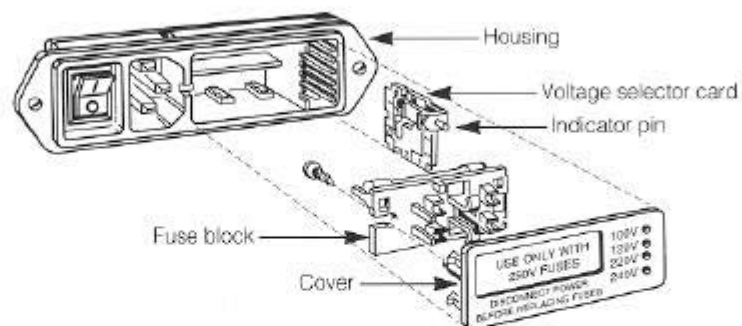

Fig. 2.1. Power entry module.
3. The indicator pin can be moved across the slot on the voltage selector card. To set the required voltage for the pump, the indicator pin must be oriented on the side opposite the printed voltage on the voltage selection card (see Figure 2.1). In addition, the indicator pin must slide into the notch on the outside edge of the voltage selection card.